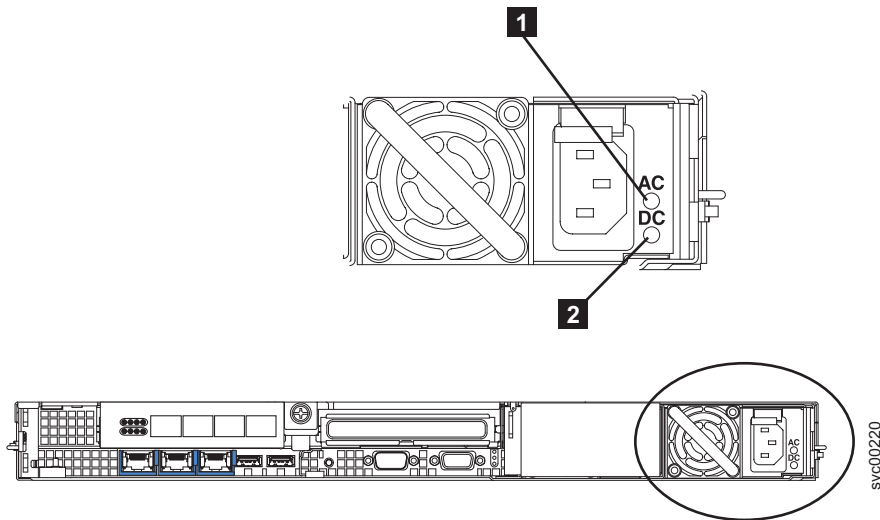

Figure 159. SAN Volume Controller 2145-8G4 ac and dc LEDs
4. Make sure that the ac power LED **1** and the dc power LED **2** (shown in Figure 159 on page 176) on the power supply are lit, indicating that the power supply is operating correctly. The two green LEDs are next to the power-cord connector.